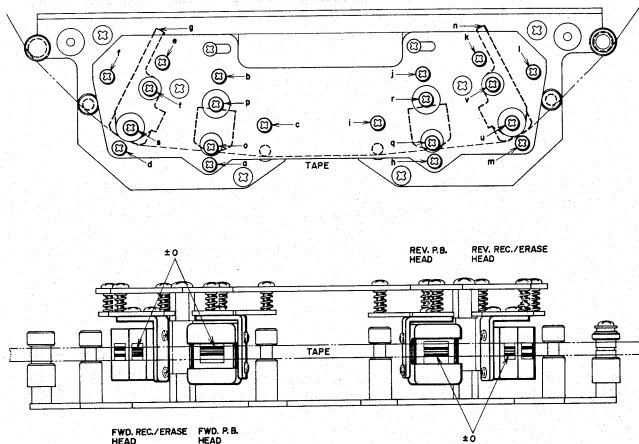

Fig. 13
1) Playback Head (See Fig. 13)
a) At forward playback mode, adjust the height of the Fwd playback head by turning screws a, b shown in Fig. 13 until the upper edge of the tape and the lower edge of the left channel head core of the playback head are the same height.
b) At reverse playback mode, adjust the height of the Rev playback head by turning screws h, j shown in Fig. 13 until the lower edge of the tape and the lower edge of the right channel head core of the playback head are the same height.
a) At forward playback mode, adjust the height of the recording head by turning screws d, e shown in Fig. 13 until the upper edge of the tape and the upper edge of the left channel head core of the recording head is the same height.
b) At reverse playback mode, adjust the height of the Rev recording head by turning screws k, m shown in Fig. 13 until the lower edge of the tape and the lower edge of the right channel head core of the recording head are the same height.
- c) After the adjustments outlined above have been completed, loosen reverse recording head mounting screws u, v and move lever n (refer to Fig. 13) to left and right and adjust the gap side of the recording head so that when tension is applied to the supply reel side, the line output of both channels does not fluctuate. When a maximum allowable fluctuation of which $+0.5/-0$ dB is attained, tighten screws u, v.